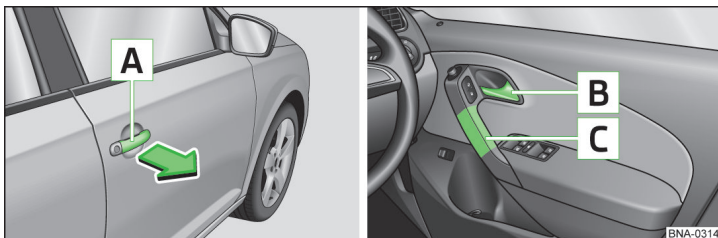

Fig. 23 Door handle/door opening lever:
- To **open from the outside**, unlock the vehicle and pull the door handle **A** in the direction of arrow » fig. 23.